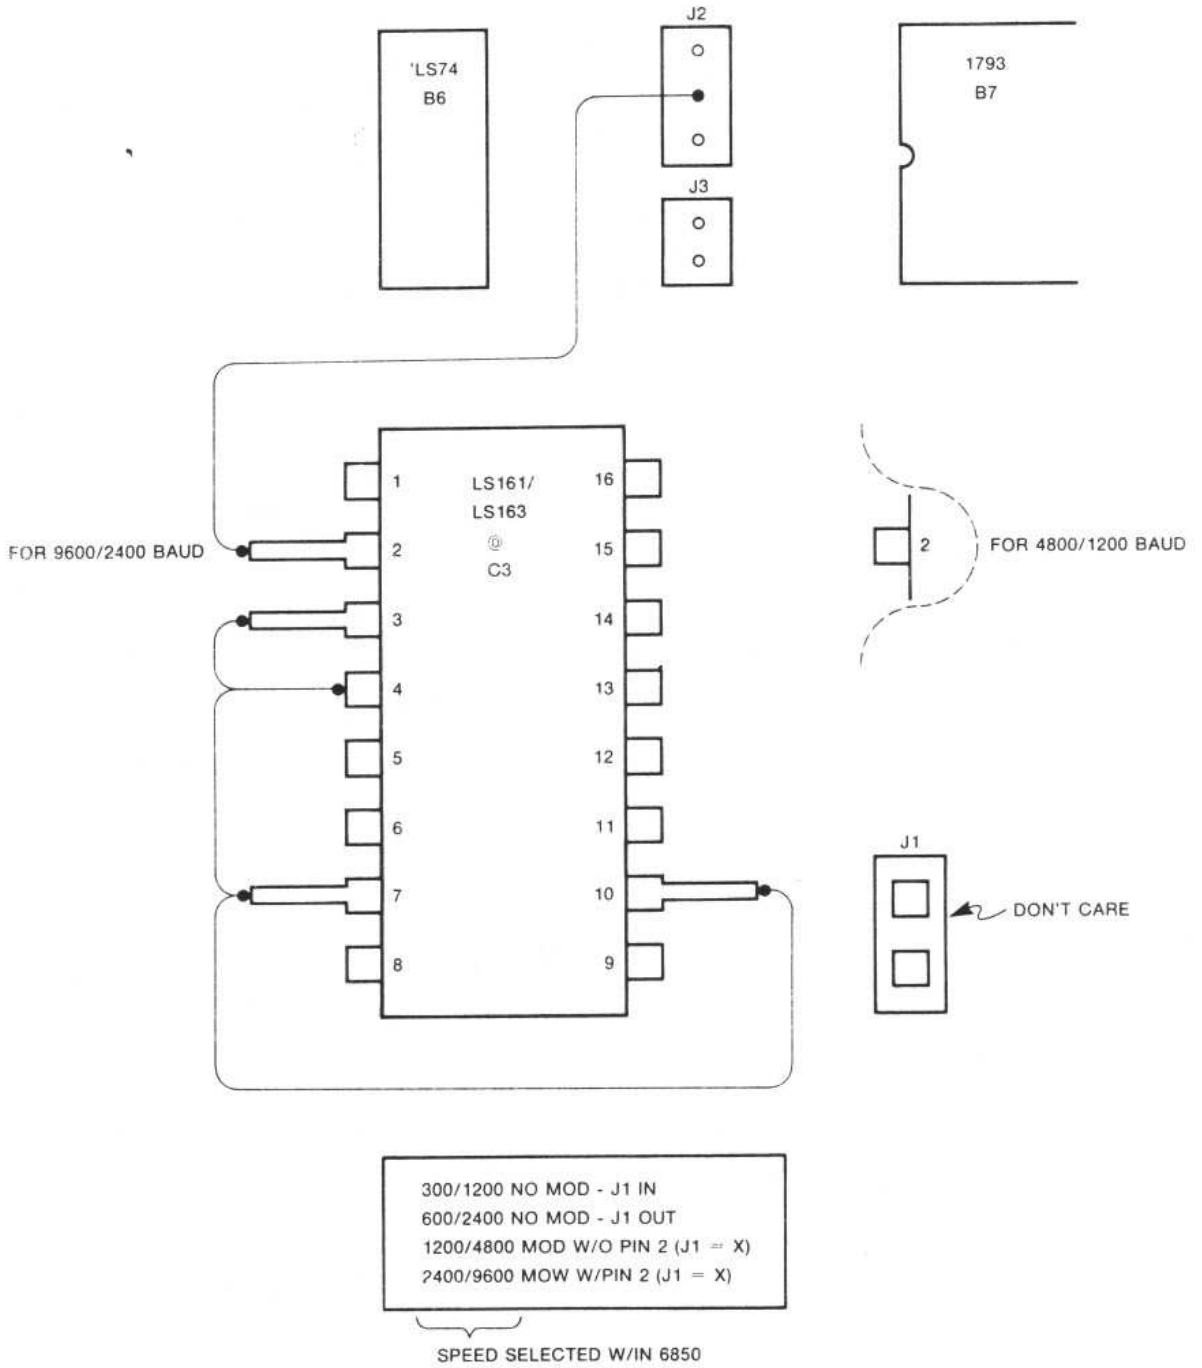

Figure 4.4 Baud Rate Hardware Modification
5. For 2400/9600 Baud you must connect an extra wire from pin 2 to the middle contact of J2 as illustrated in Figure 4.4.